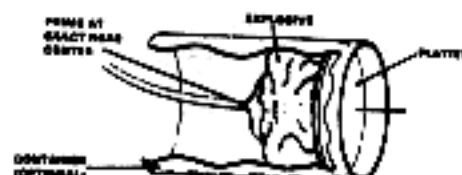

Figure 15-18. Platter Charge
(3) Platter Charge. This device utilizes the Miznay-Shardin effect. It turns a metal plate into a powerful blunt-nosed projectile (figure 15-18). The platter should be steel (preferably round, but square is satisfactory) and should weight from two to six pounds.